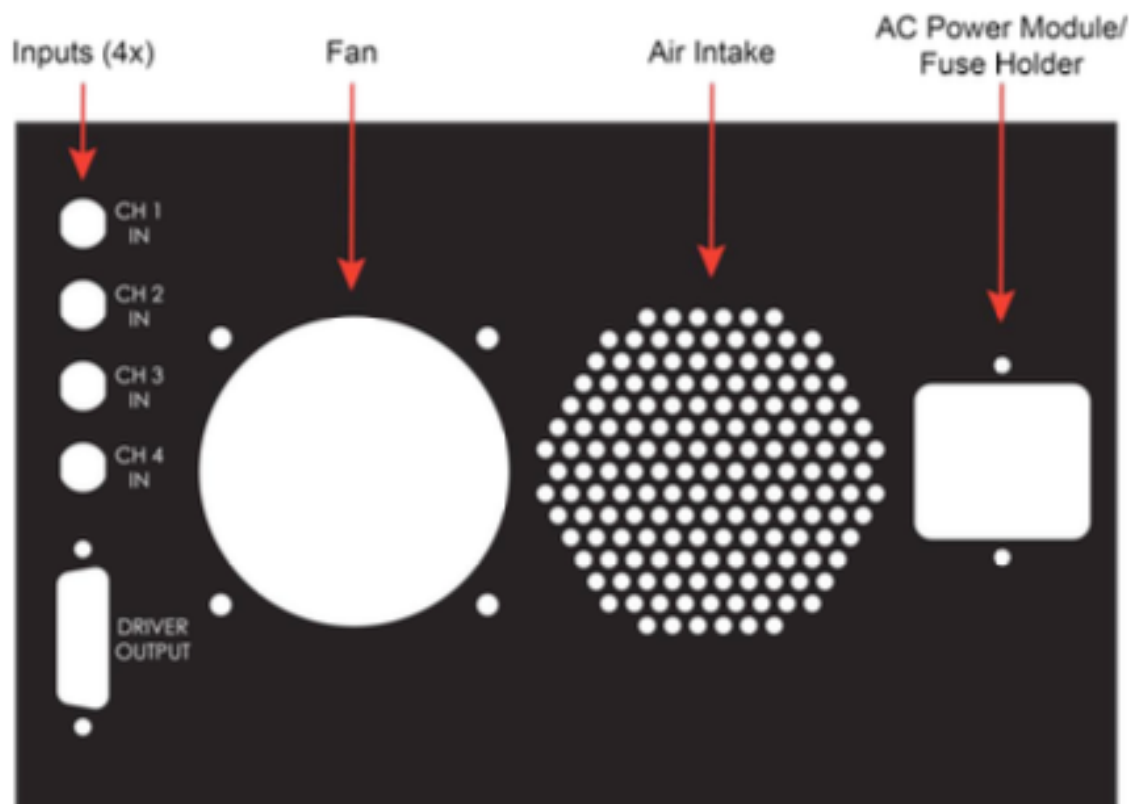

Figure 2: Rear panel layout of the four-channel coil driver.
The coil driver is powered with a standard three-prong power cord that inserts into the AC Power Module on the rear panel (see Figure 2). The unit can operate from a 90 to 264 VAC and a line frequency between 47 and 63 Hz. The AC power module contains the line fuse, which is a medium-blow type rated at 1 A / 250 V and measuring 5×20 mm.
- Overtemp** – The coil driver is designed to operate continuously with all channels simultaneously outputting currents up to ± 3 A. However, blocking the air intake and fan on the rear panel (see Figure 2) may cause the internal temperature to exceed the high temperature limit. If this happens, the “Overtemp” LED will illuminate and the output will be disabled.
The current outputs of the coil driver are controlled with input voltages applied to the LEMO jacks at the left side of the rear panel (see Figure 2). The output current, in amperes, is equal to the differential input voltage, in volts. Input protection prevents either of the input voltages from exceeding ± 10 V (with respect to the driver's ground).